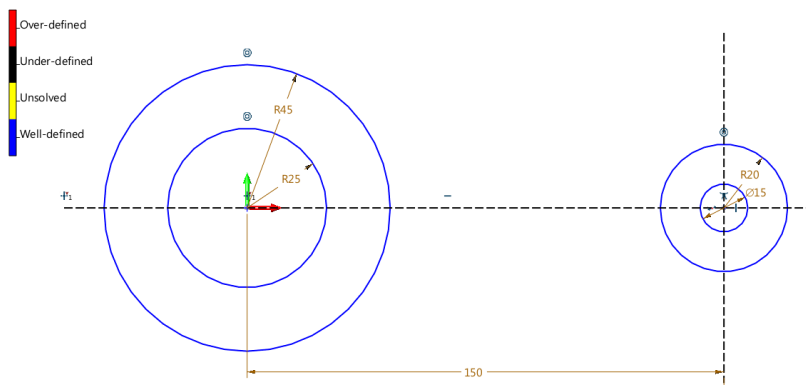

Figure 131 Drawing the Base Circles
STEP 05 Add constraints to the centers and the intersection point with the **Point to Intersection** feature. Turn on **Constraint status color**, and then check the sketch. The result is as Figure 131 shows.